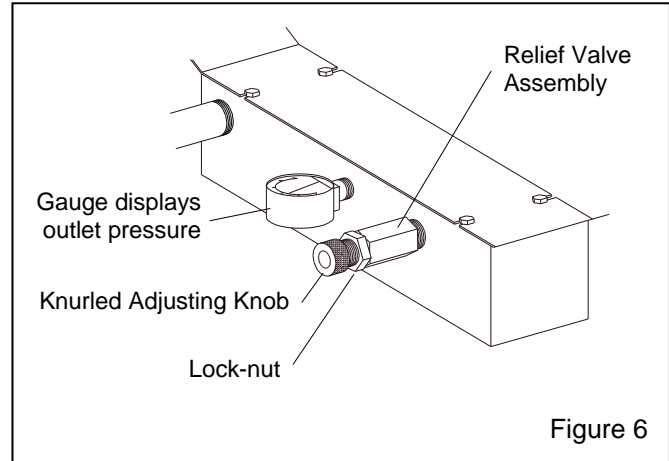

Figure 6
4.3 Relief Valve, Ref. Figure 6